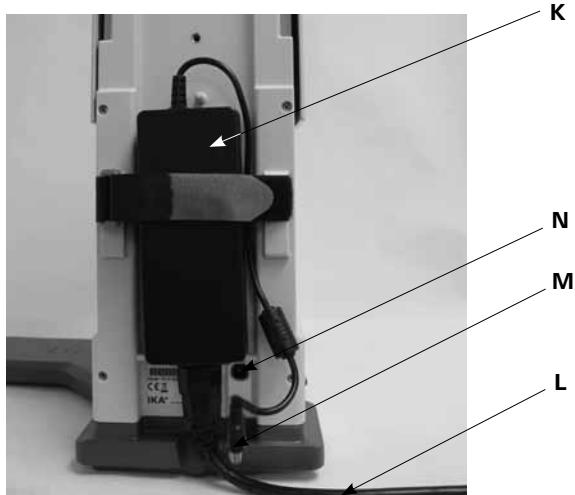

Fig. 9
3.) Fix the Desktop switching. (Fig. 9)
- Connect the Low-voltage connector (**M**) to the connection socket (**N**). (Fig. 9)